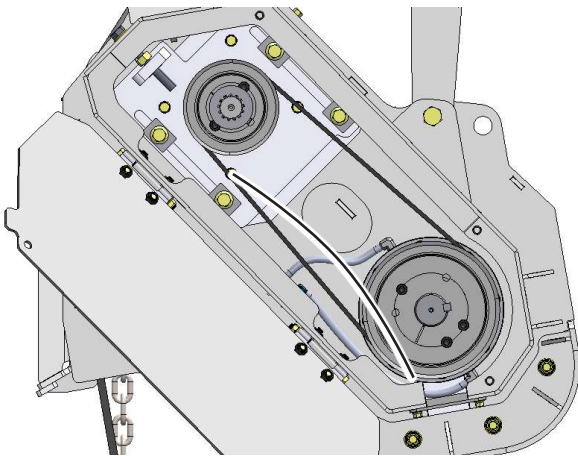

Figure 17
5. After replacing the drive belt, turn the tension bolt clockwise to tighten the belt to the specified tension. See Figure 17.